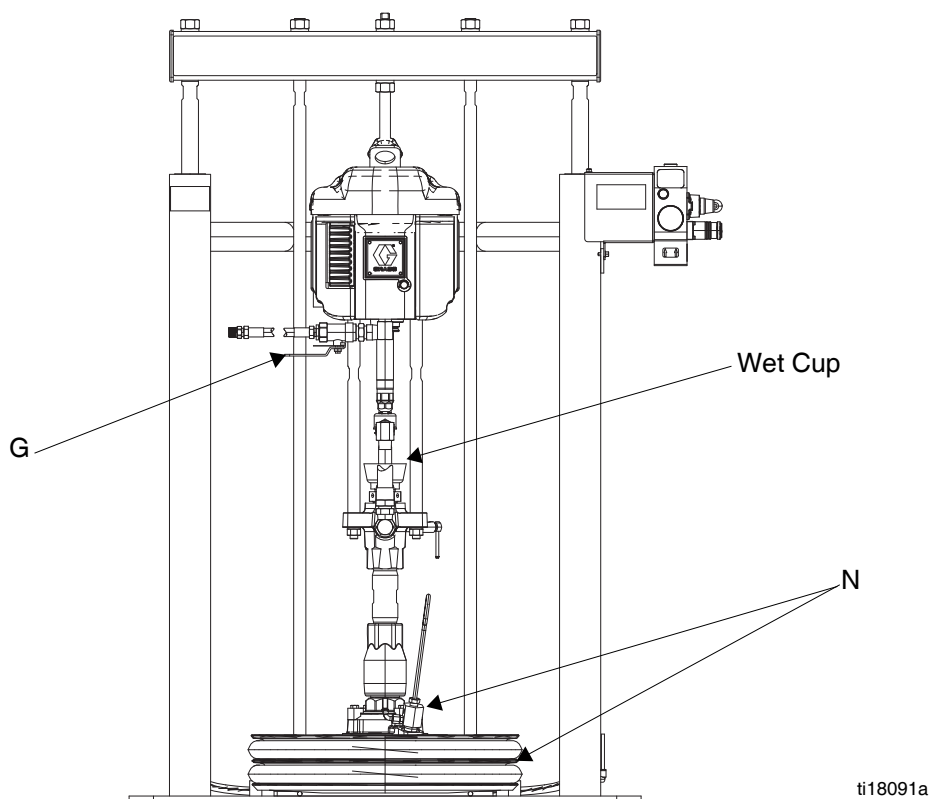

FIG. 7
2. Slowly open the component A air motor shutoff valve (G), FIG. 7. Make sure the pump begins to cycle and material flows from the bleed valve after several cycles of the pump, FIG. 11.